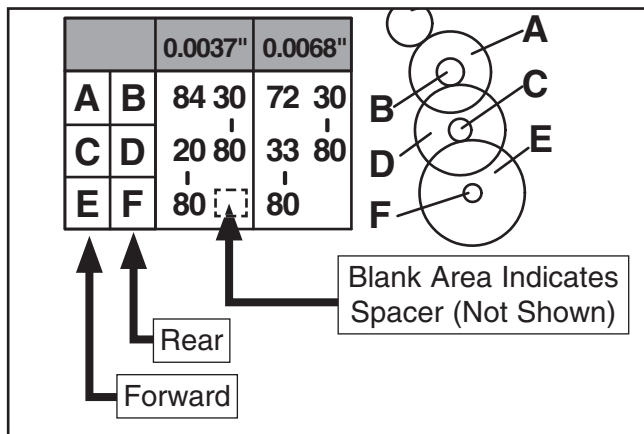

Figure 64. Forward and rear gear positions.
Each shaft has room to mount gears in two positions—forward and rear (see **Figure 64**).
Both positions must be filled for the gears to work properly. This also applies to "blank" areas on the chart, such as the one right of the 80T (E) gear in **Figure 64** (the dashed box is used for identification only). A spacer should be installed in this position on the shaft. A spacer is not listed on the chart because the chart only reflects ACTIVE gear positions.